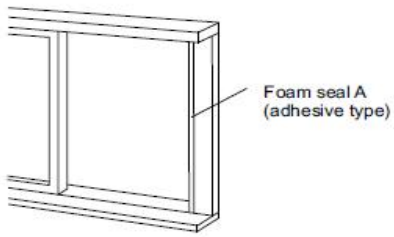

Fig. 14
2. Cut the foam seal (adhesive type) to the proper length and attach it to the bottom of the door / window. Fig.14.